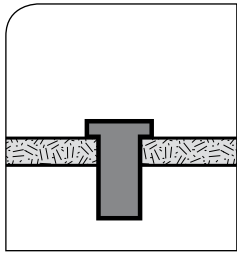

Fig. 8.4. Well-Nut is inserted into a pre-drilled hole with its flange against the outer surface. There is no need for access to the inner side.
9. Insert the ¼" Well-Nut into the drilled holes so that only the flange section remains above the roof surface (Fig. 8.4).